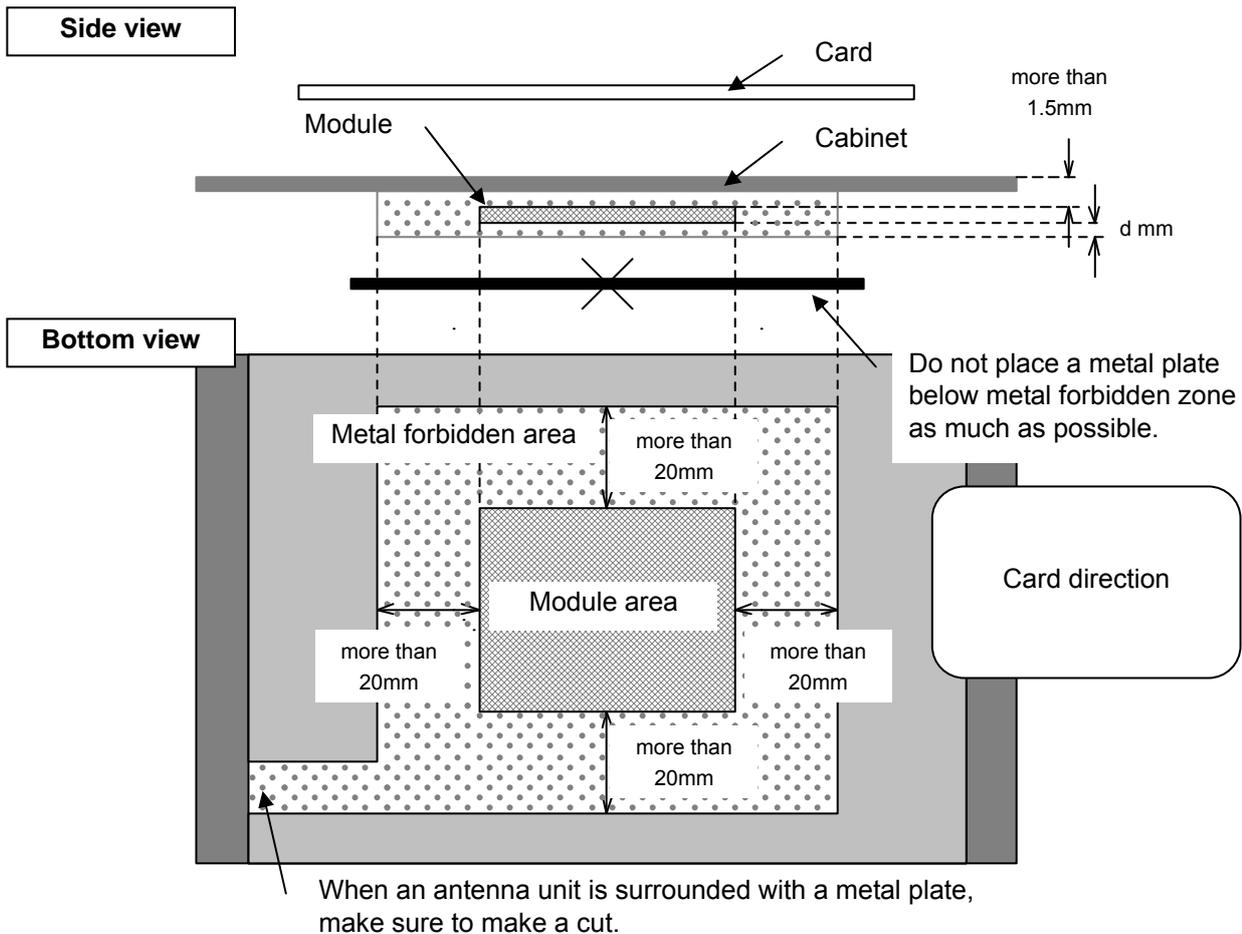

Figure A-1: Installation requirements
2. Do not place any metal in the forbidden area (dot-meshed area in Figure A-1) secured around the module. Particularly, communication performance undoubtedly deteriorates if a plate-like metal is put near the module.